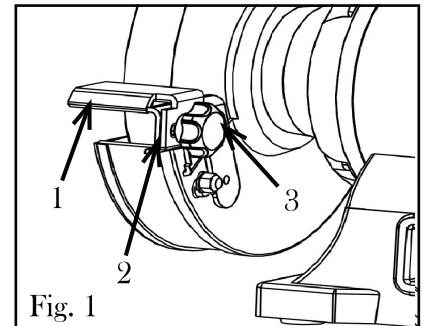

Fig. 1
1. Place the left tool rest (Fig. 1 - 1) over the tool rest bracket (Fig. 1 - 2).
3. Screw the tool rest knob into place (Fig. 1 - 3)